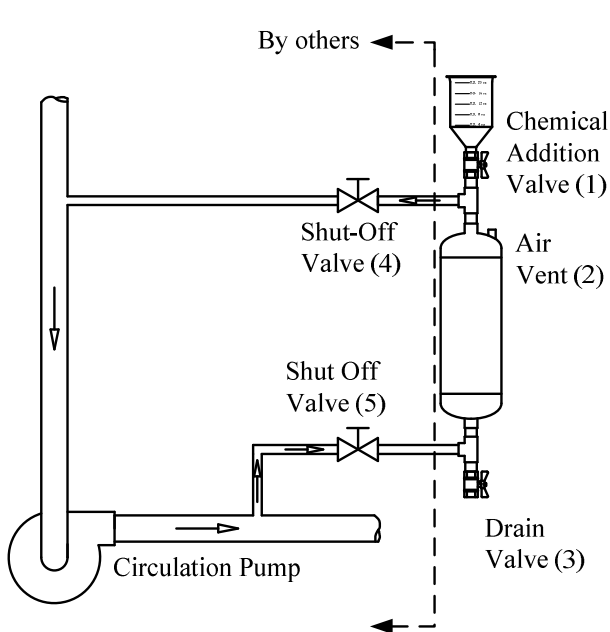

Figure 1: Installation method 1 – CBF installed in parallel with the system pump
Install the CBF (chemical by-pass feeder) in parallel with the pump with valves (4) and (5) to control the flow through the CBF as shown in figure 1. Check that all connections have been properly tightened to avoid leaks.
Refer to Figure 1 when using installation method 1.